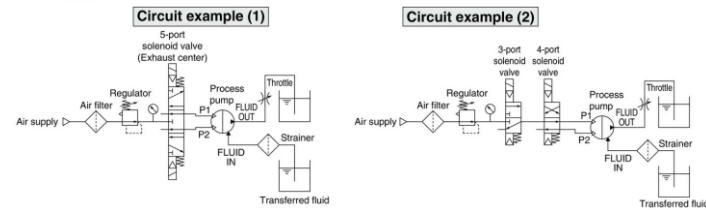

Fig 3. Air Operated Circuit Examples
< Starting and Stopping > Refer to circuit examples [Fig.3].
Note 2: For the solenoid valve, use an exhaust centre 5 port valve, or a combination of residual exhaust 3 port valve and a pump drive 4 port valve. If air in the drive chamber is not released when the pump is stopped, the diaphragm will be subjected to pressure and its life will be shortened. Refer to circuit examples (1) and (2) [Fig.3].